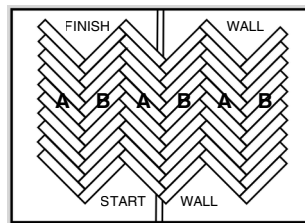

Figure 8
- Continue placing "B" planks in sequence. On the opposite side of the original row, repeat the process using "A" planks so the pattern continues evenly (Fig. 8). Maintain spacers and confirm the pattern stays square.